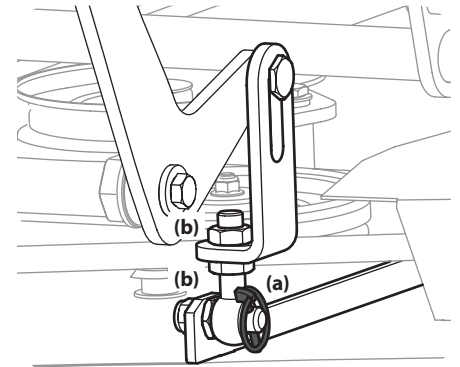

Figure 4-11
- Adjust the eyebolt (a) at the left front of the deck so that the blade-to-ground height at the right outside blade tip matches that of the left outside blade tip. This is done by loosening the jam nuts (b) on the eyebolt (a) and tightening the upper jam nut (b) to raise the deck and loosening the jam nut (b) to lower the deck. The right outer blade tip height is fixed by the right, front eyebolt (a) so you must adjust the left outer tip to match it. See Figure 4-11.
- Loosen the jam nuts (b) at the rear left and right of the deck eyebolts (a). Refer to Figure 4-11.
- Start at the rear right to raise the rear of the deck, tighten the upper jam nut (b) to raise the deck or loosen the upper jam nut (b) to lower the rear of the deck. Refer to Figure 4-11.
- Adjust the jam nut (b) at the rear left to take the "slack" out of the threaded rod. Refer to Figure 4-11.
- Tighten both lower jam nuts (b) to secure the deck adjustment. Refer to Figure 4-11.
- The final adjustment would be to take the "slack" out of the left rear linkage if the rear of the deck was raised by adjusting the jam nuts (b) on the eyebolt (a). Loosen the jam nuts (b) and tighten the upper jam nut (b) to remove "slack". Refer to Figure 4-11.
- In many cases it will be necessary to adjust deck height using both eyebolt (a) adjustments and pitch adjustment to achieve the correct blade-to-ground heights. If you remember that the front right blade tip adjustment is fixed and you level to that height, adjusting the decks will be simplified. Refer to Figure 4-11.